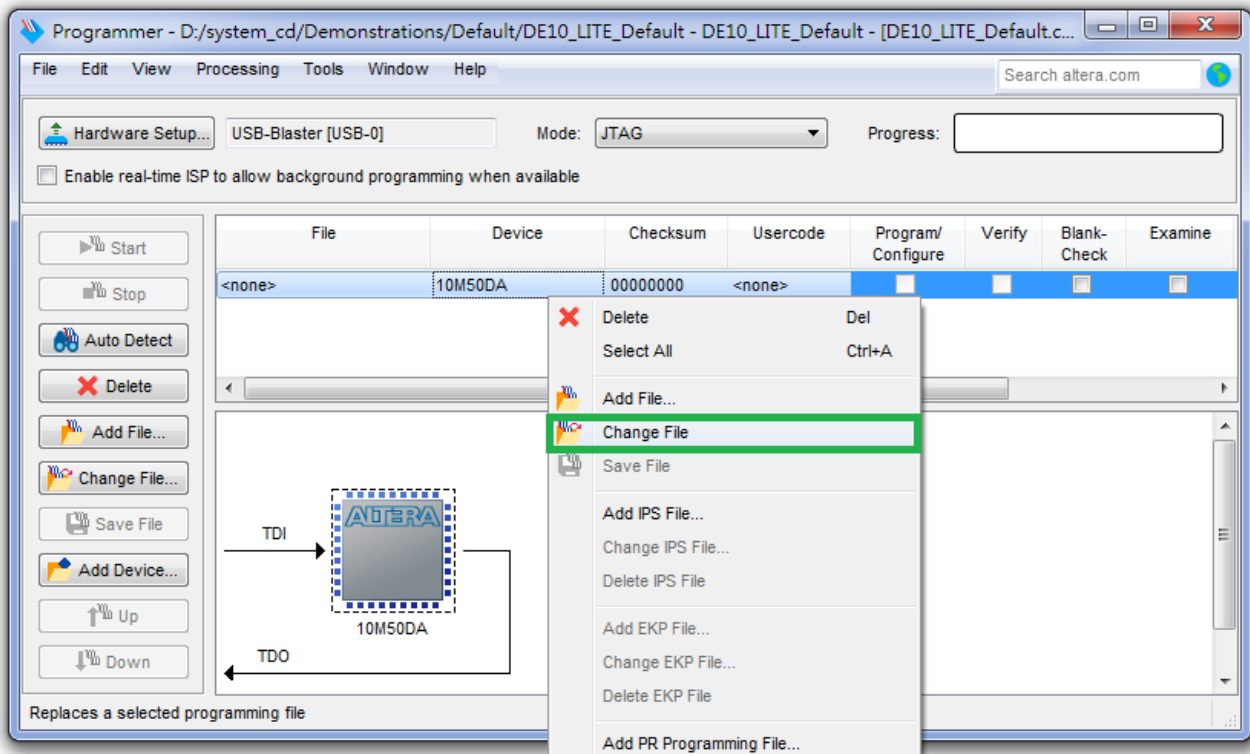

Figure 3-7 Open the .sof file to be programmed into the FPGA device
- Right click on the FPGA device and click “Change File” to open the .sof file to be programmed, as highlighted in **Figure 3-7**.